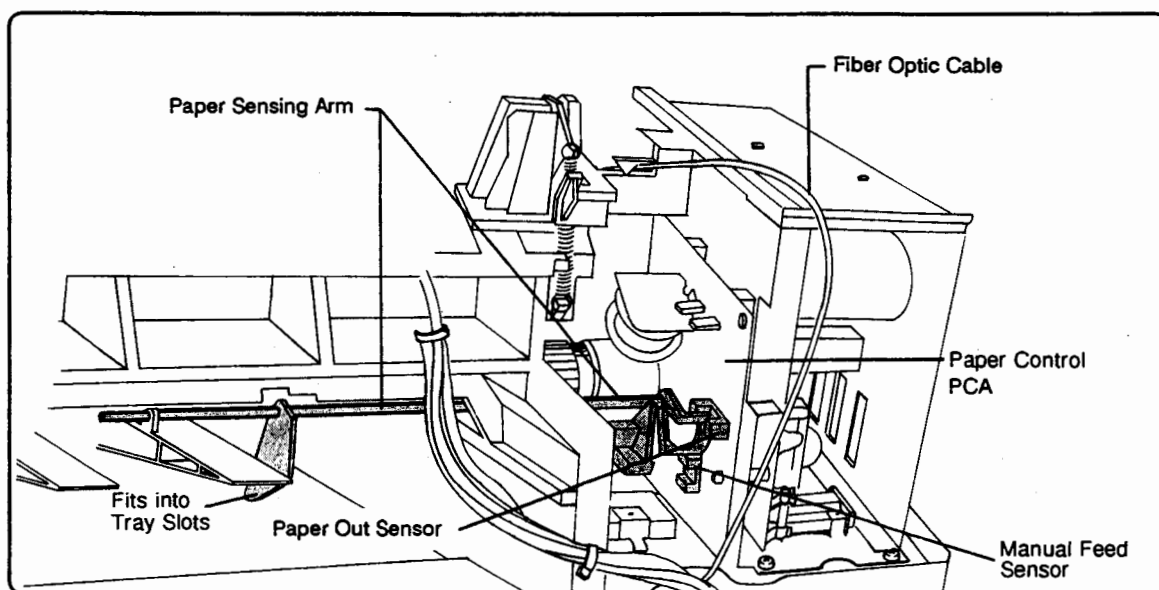

Figure 7-4. Paper Sensing Arm
4. Is the Paper Sensing Arm broken? (See Figure 7-4.)	Inspect the arm for damage; if broken, replace the arm.